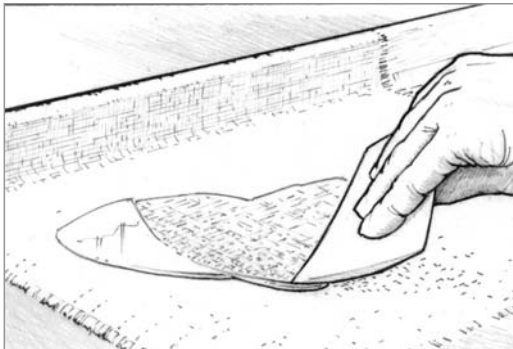

Figure 6-11 Spread the epoxy from the center of the fabric toward the edges with a plastic spreader.
5. Spread the epoxy over the cloth surface with a plastic spreader, working the epoxy gently from the pool into the dry areas (*Figure 6-11*). Use a foam roller or brush to wet out fabric on vertical surfaces. Properly wet out fabric is transparent. White areas indicate dry fabric. If you are applying the cloth over a porous surface, be sure to leave enough epoxy to be absorbed by both the cloth and the surface below it. Try to limit the amount of squeegeeing you do. The more you “work” the wet surface, the more minute air bubbles are placed in suspension in the epoxy. This is especially important if you plan to use a clear finish (see note below). You may use a roller or brush to apply epoxy to horizontal as well as vertical surfaces.